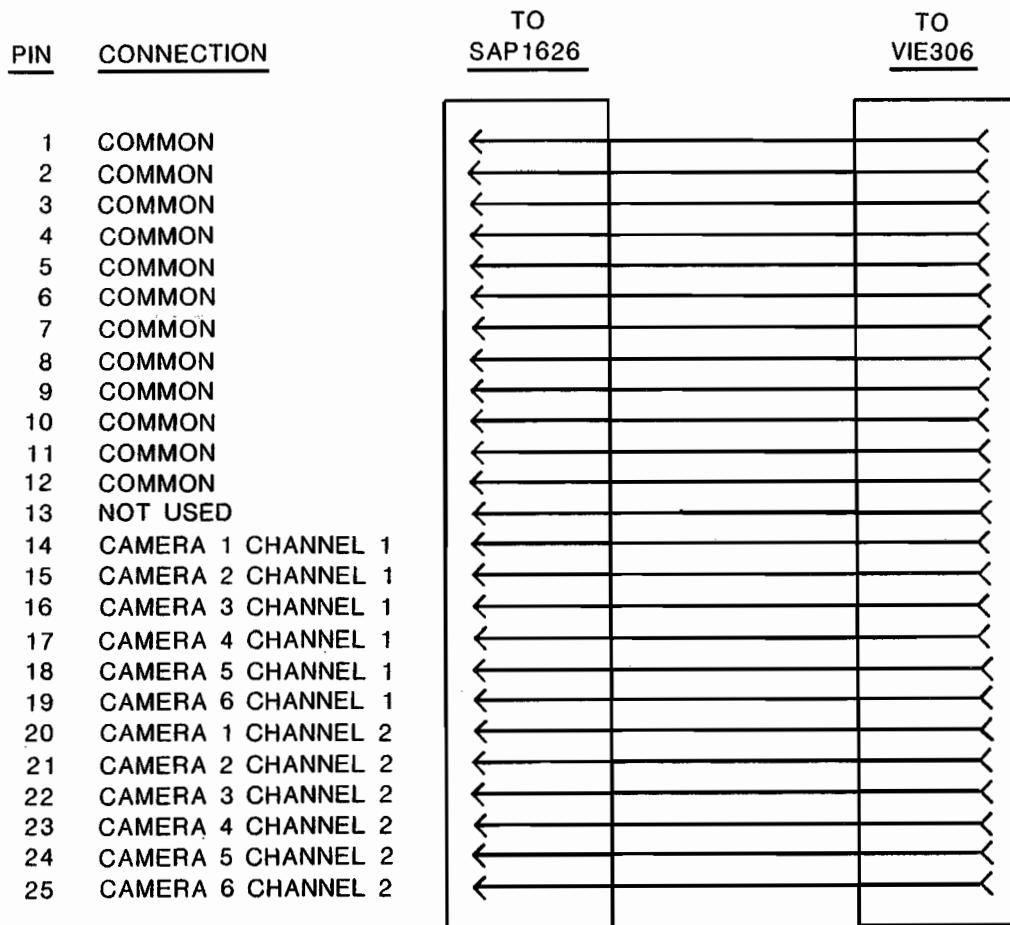

Figure 2-3
Figure 2-3 shows the wiring of a twenty-five-conductor cable.
4. Twenty five-Conductor Cable See Figure 2-3.